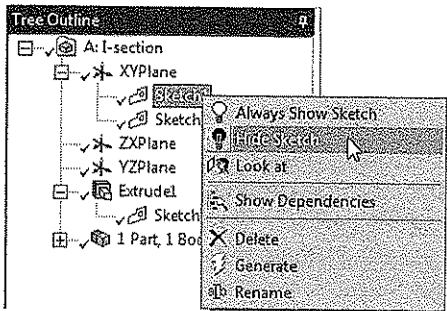

Figure 3-39 Hiding Sketch1 by selecting the Hide Sketch option from the shortcut menu
- 3. Right-click on **Sketch1** in the Tree Outline and then choose the **Hide Sketch** option from the shortcut menu displayed, refer to Figure 3-39.